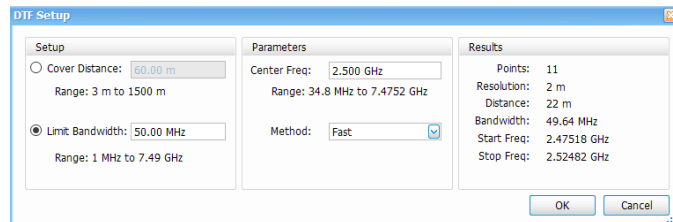

FIGURE 8. Setting bandwidth limit.
10. If you want to set a bandwidth limit for the system instead of using distance, select Limit Bandwidth as shown in Figure 8. Otherwise go to step 11.